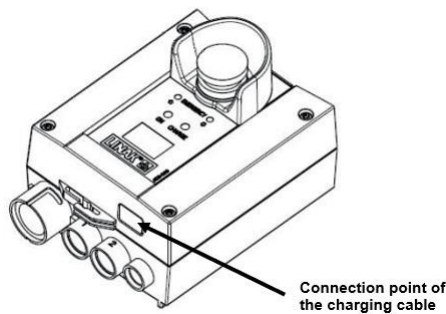

Figure 36 – Connecting the charging cable
- Connect the power cord to the control box (Figure 36).